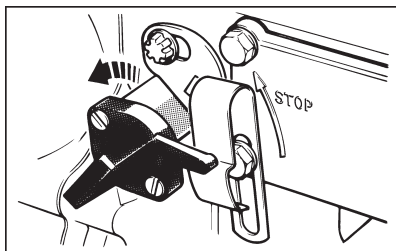

Figure 3.2 The engine control
If the engine stops other than by the operation of the engine control (Figure 3.2), the control must be turned anti clockwise to the **STOP** position and released before the device can operate.
1. Turn the engine control (Figure 3.2) anti clockwise to the **STOP** position and hold it there until the engine comes to rest.